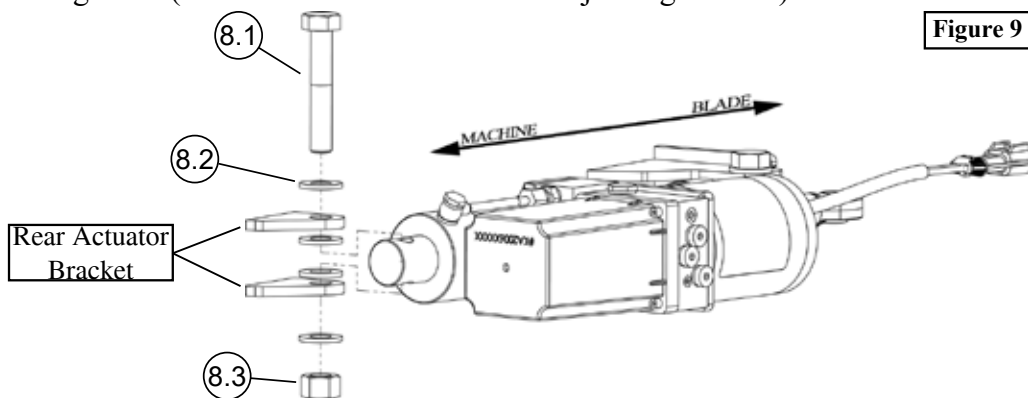

Figure 9
1. Place bolt (8.1) through flat washer (8.2), top tab of rear actuator bracket, flat washer (8.2), Hydraulic Actuator (7), flat washer (8.2), bottom tab of rear actuator bracket, and flat washer (8.2). Place nylock nut (8.3) onto bolt (8.1) as shown in Figure 9. (This orientation of hardware is just a guideline)
- **Standard Winch:** assemble roller fairlead or hawse per **Figure 9**.